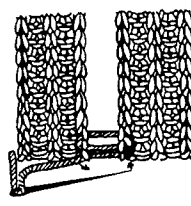

Fig. 83
a) With the single needle transfer tool, transfer the center stitch onto a neighboring needle on either side. (see Fig. 83)